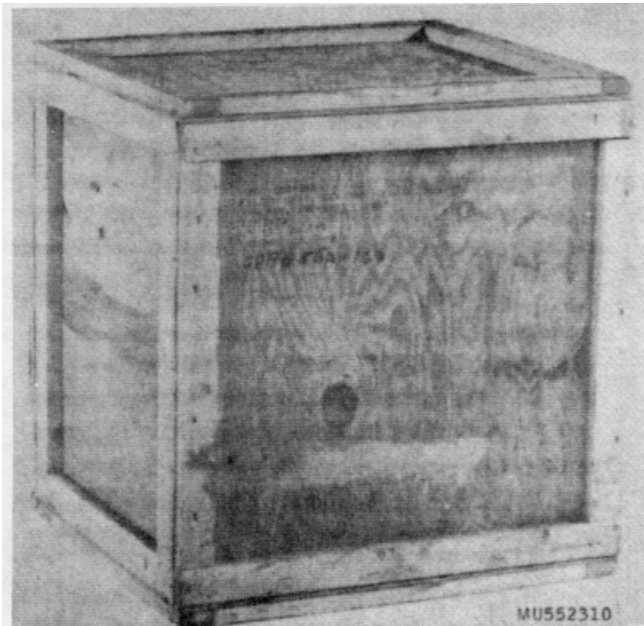
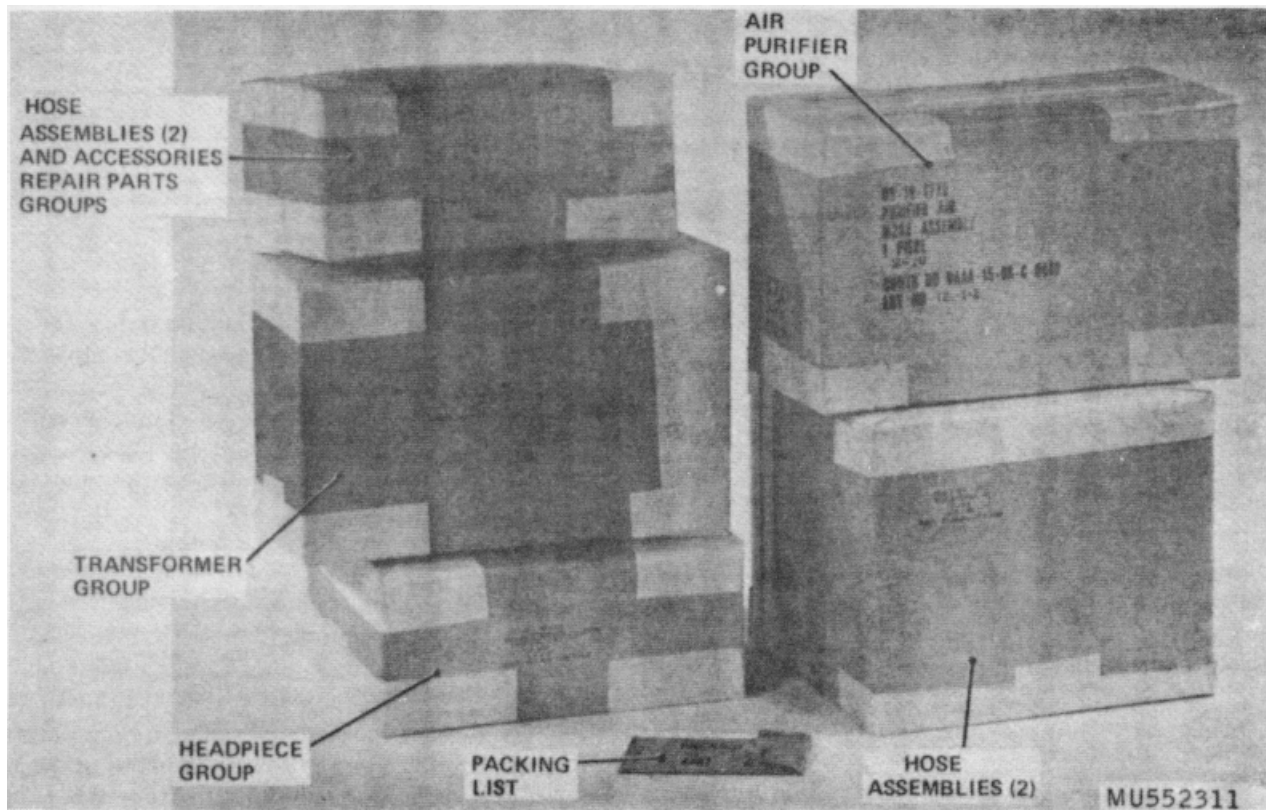

Figure 4-1. Filter unit, crated.
Figure 4-2. Filter unit, partially unpacked.
a. General. The filter unit is received by organizational maintenance personnel packed in a wood box (fig. 4-1). Open the wood box by cutting the metal straps and removing the lid, taking care not to damage the contents. Unpack the filter unit from the box. Check the packing list against the contents of the box to insure that the filter unit is complete (fig. 4-2). Retain the box with packing for future storage of filter unit or for moving filter unit to another location.